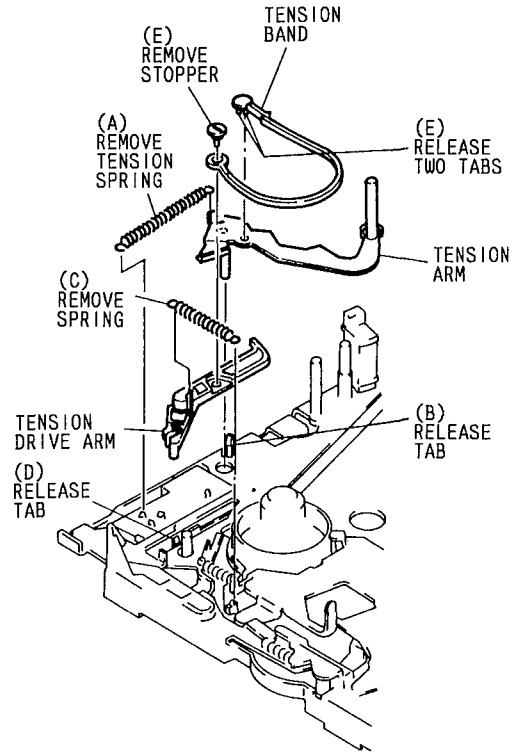

Fig. 4-6
- 2) Insert the boss of the tension drive arm into the groove in cam gear [A]. (See Fig. 4-6)